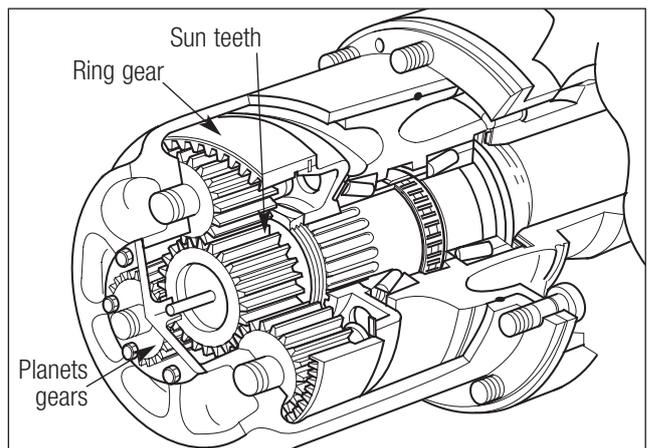

Fig. 1.4
**Ratio formula =  $1 + (Z \text{ Ring gear} / Z \text{ Sun teeth})$ , fig. 1.4**